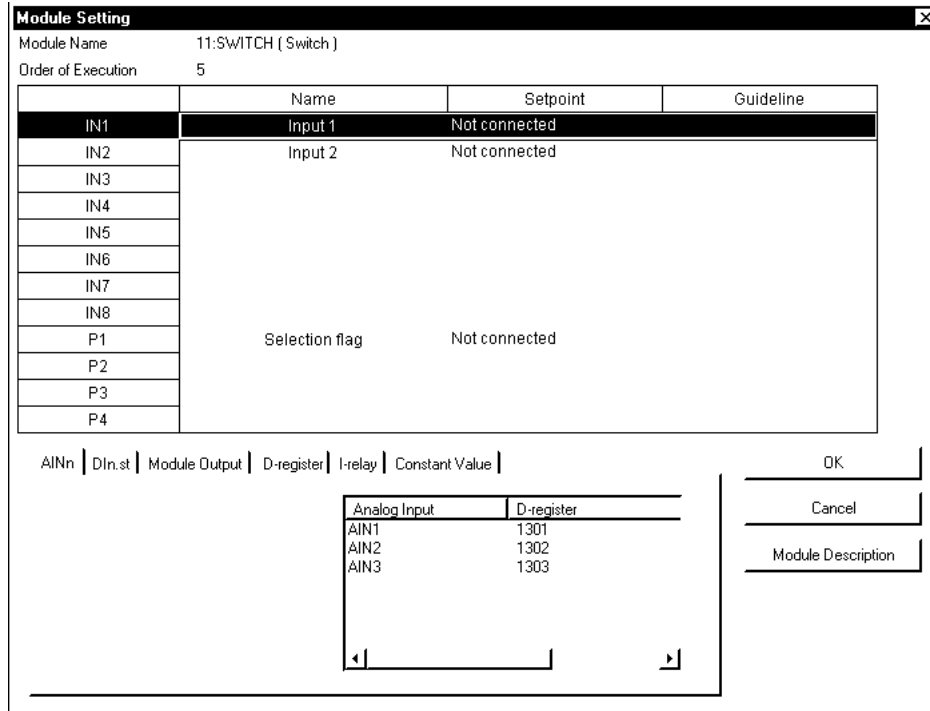

Figure 12.3.4 [Module Setting] Dialog Box
- ① Click the registered fifth-run SWITCH module.
- ≠ From the tool menus, choose <Editing>, then <Connection>. The [Module Setting] dialog box (Figure 12.3.4) appears.